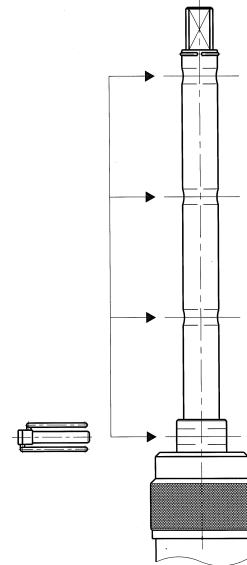

Figure 8
- Select the position of the chuckshaft depending on the distance it will have to travel during drilling (on the current example: **ARH** clamp + gate valve), placing the retention mechanism in the most appropriate opening of the four located on the shaft (locking pin or actuator's adapter, according to the operation mode used). See *Figure 8*.
If a length longer than the machine's travel is necessary, the drilling can be continued by moving the retention mechanism to the opening above the one it was fastened to on the shaft (unless the highest anchoring has been in use). See *Figure 8*.